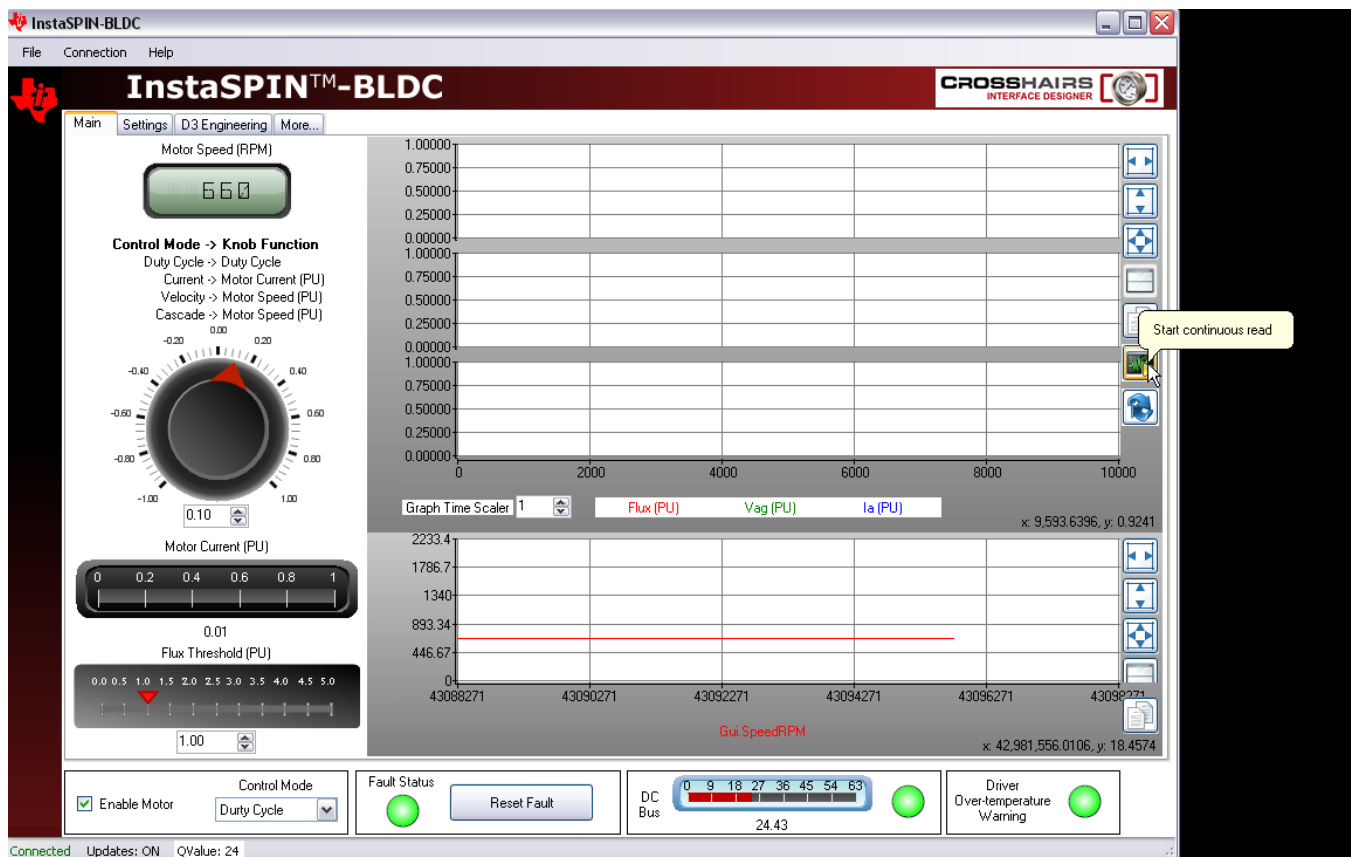

Figure 11. Start Continuous Read
2. Turn on "Start Continuous Read" on the upper graphs (see Figure 11).